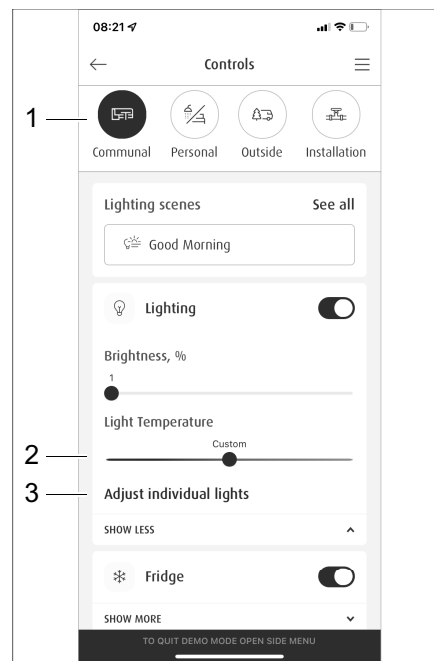
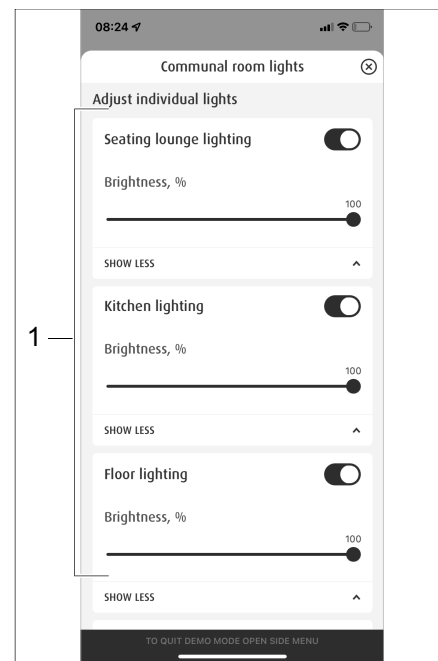

Fig. 293 Selecting preset scenarios
Fig. 294 Managing scenarios
- In the *Operation* menu, click on the *Living* (Fig. 293,1) button.
- In the *Living* menu, click on the *Set lights individually* (Fig. 293,3) button. The *Set lights individually* menu will open (Fig. 294).
- Select the desired lighting from the available options (Fig. 294,1) and use the sliding bar (Fig. 293,2) to set the light temperature.